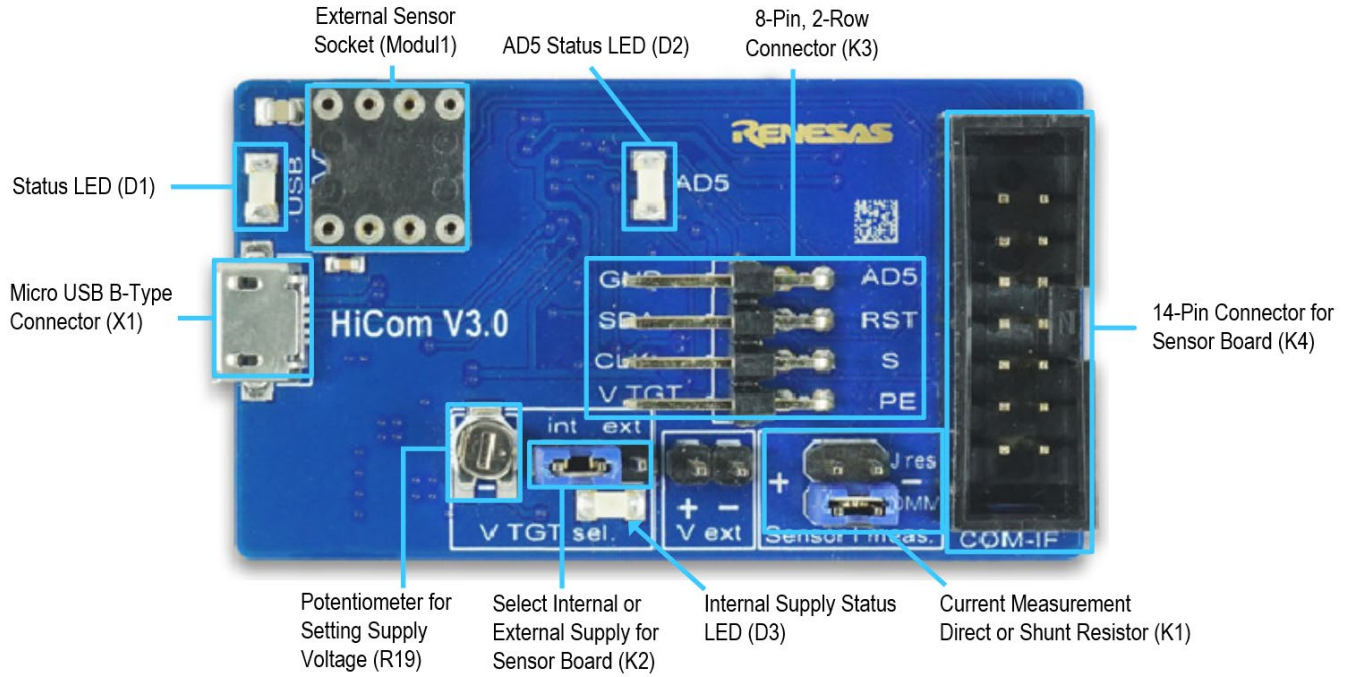
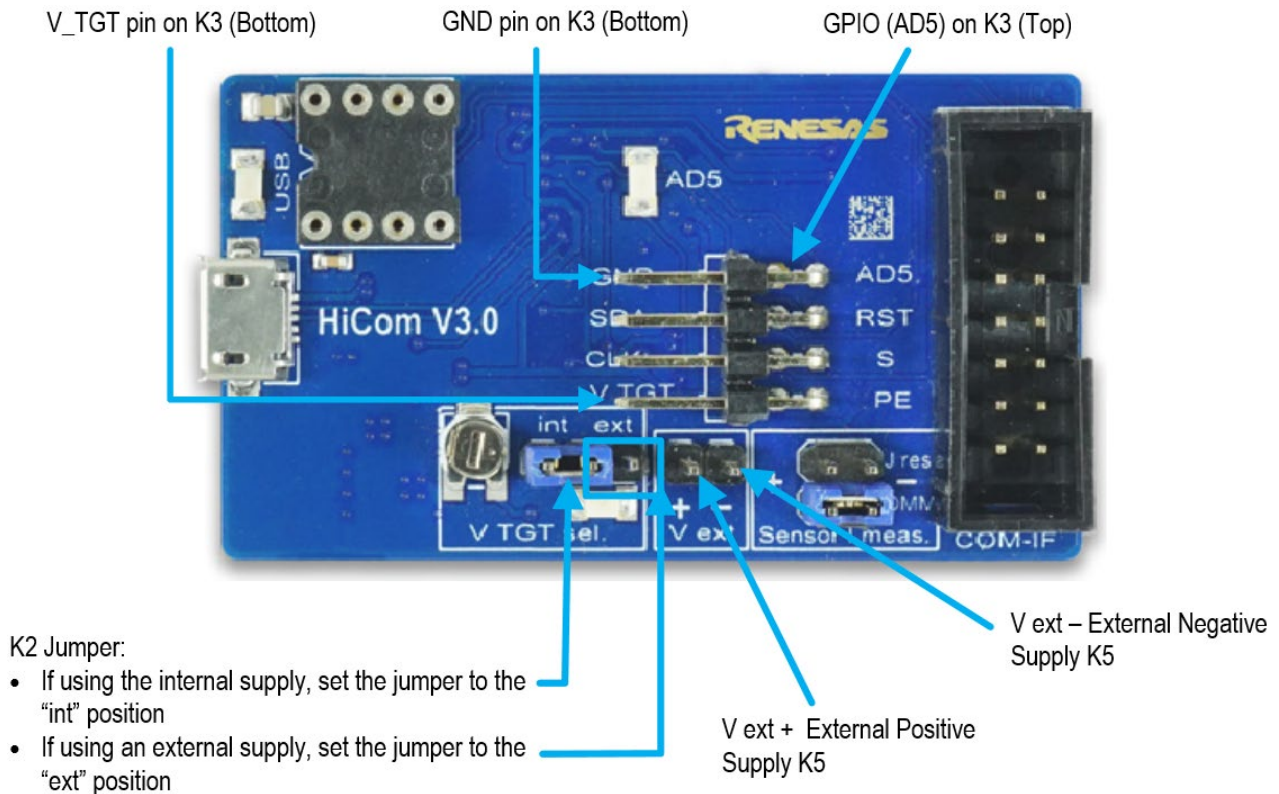

Figure 2. Jumper Settings and Connectors on Top Side of the ZMOD4410 Communication Board
Figure 3. Jumper Settings, Connections, and Test Points on the Communication Board for the Internal or External Supply Voltage
1. Refer to Figure 2, Figure 3, and Table 1 to determine the correct jumper settings for the ZMOD4410 Communication Board depending on whether an external supply or the internal voltage supply on the board is used.
- If using an external supply, ensure that the jumper is across the pins labeled “ext” on the K2 connector. In this case, without connecting the external supply to the Communication Board, verify that the external voltage supply setting does not exceed the voltage supply specifications – a minimum of 1.8V or a maximum of 3.6V – as per the ZMOD4410 Datasheet. With the external supply off, connect the external voltage to the 2-pin “±V ext” header adjacent to the K2 jumper with the orientation indicated in Figure 3.
If the external voltage supply has been selected, turn on the external supply and verify that the D3 LED adjacent to the potentiometer is on (see Figure 2). *Note:* The intensity of the green D3 LED is proportional to the supply voltage.
5. If the internal voltage is used, the Gas Sensor Evaluation Software activates the internal voltage after the sensor has been started. Use the metal potentiometer to the left of the K2 connector to adjust the VDD supply voltage in the typical range from 1.8V to 3.6V as measured across the V_TGT and GND pins available on the K3 connector as shown in Figure 3. Its initial adjustment on delivery provides a voltage of $V_{DD} \approx 2.0V$. Once a measurement has been started by the software, the green D3 LED adjacent to K2 will light with an intensity proportional to the voltage supply that was set using the potentiometer.
6. Verify that the red D1 LED is on, which indicates that the kit is properly connected and powered (see Figure 2).